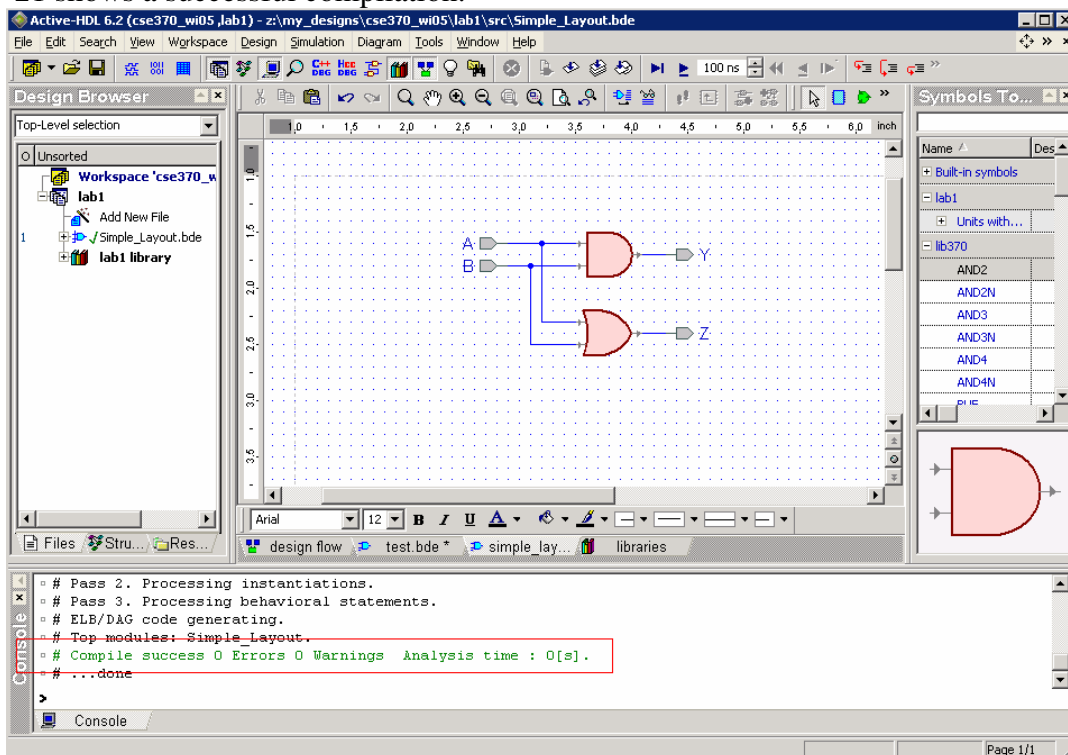

Figure 21
4. After you have checked your diagram and resolved any errors or warnings, click the Compile icon in the Standard toolbar. The Console window will display the results of the compilation. When compiling a schematic, the console will generally compile successfully even if there are gates and/or terminals that are not connected (in some cases, warnings will be issued for unconnected ports). Therefore, just because a schematic compiles does not mean that it will do what you intended it to do during simulations. This is the reason you need to check your diagram prior to compiling. Figure 21 shows a successful compilation.